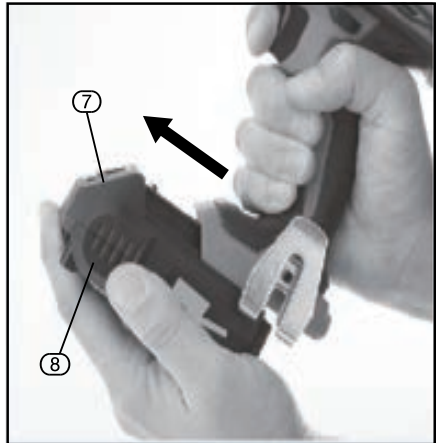

FIG.1
8.1 BATTERY PACK CHARGING – FIGS. 1 – 2
- Press the battery release button (7) and gently slide the battery pack off (Fig.1).
- Plug the battery charger (9) unit into a 230V/AC 13amp three pin supply socket.